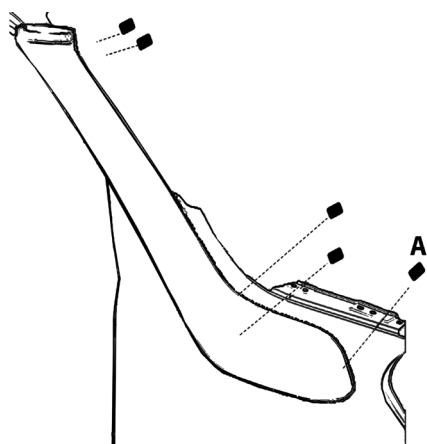

Fig. 23
When installing accessory kit PZQ1289040, an open ended torque spanner can be used to tighten nut (A) in Fig.23 due to limited access.